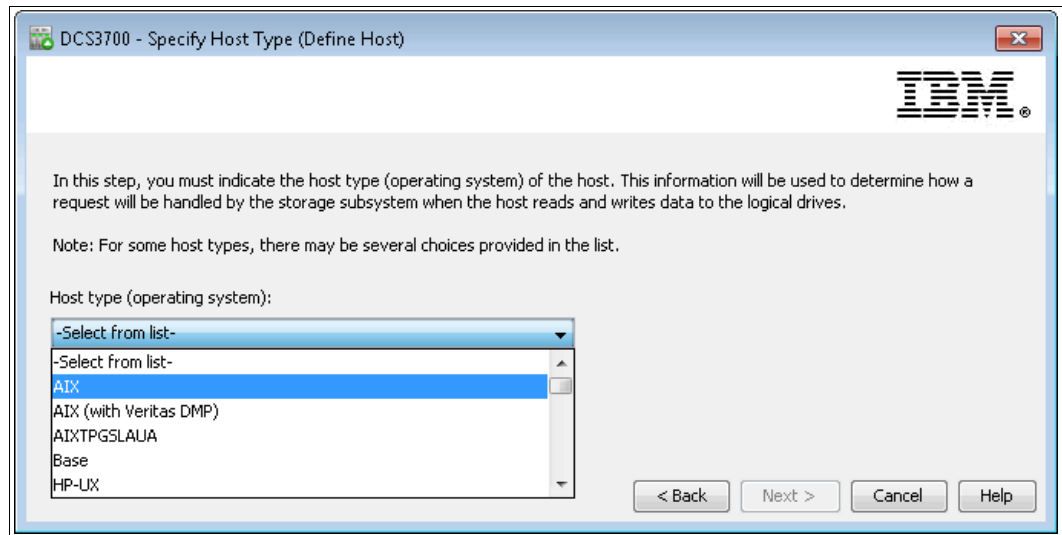

Figure 19-14 Specify host type
6. Select the **AIX** host type from the Host type (operating system): menu, as shown in Figure 19-14.